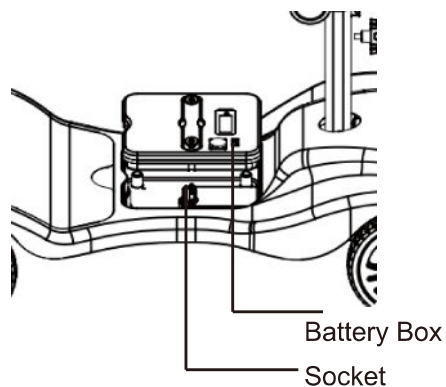

fig.8
1. Insert the female connector at the bottom of the battery box into the male connector on the vehicle shell (Figure 8).